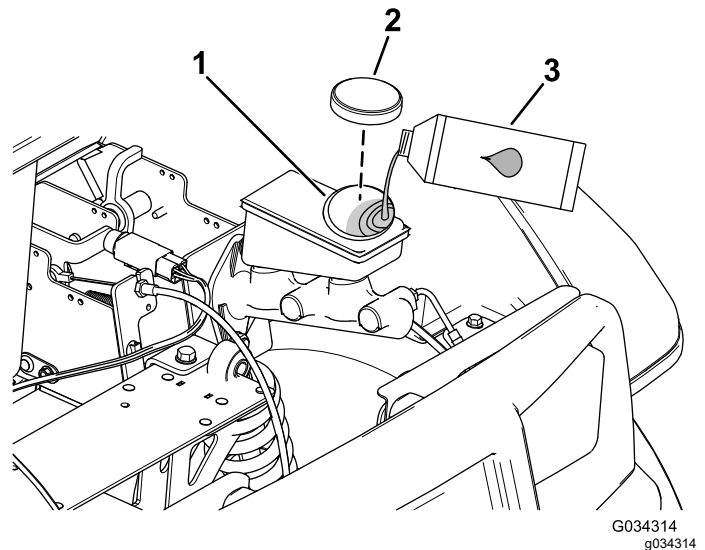

Figure 63
4. Raise the hood to gain access to the master-brake cylinder and reservoir (Figure 63).
- A. Clean the area around the reservoir cap and remove the cap (Figure 63).
- C. Install the reservoir cap (Figure 63).